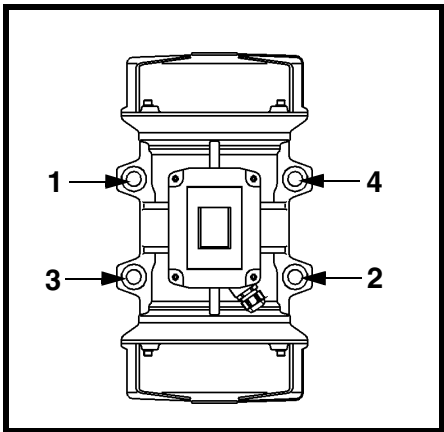

Figure 1. Mounting Bolt Tightening Sequence
Tighten mounting bolts in sequence shown in Figure 1. If not tightened in order, vibrator casting could be damaged.
2. Install vibrator onto mount with new lock nuts, compression washers, and bolts according to Table I. Tighten bolts in order given in Figure 1 to avoid damaging vibrator casting. (Contact fastener manufacturer for specific information regarding bolt torque.)